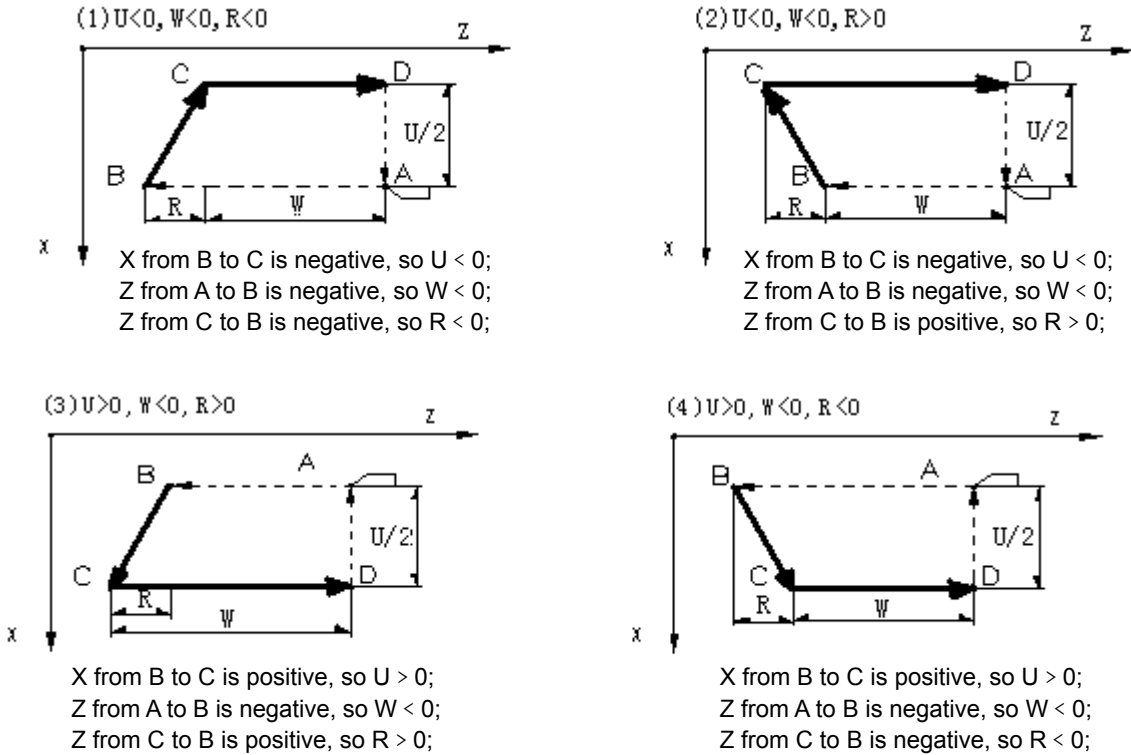

Fig. 4-28 G94 relationship between U, W, R sign and tool path
5) Compound example: as Fig. 4-28